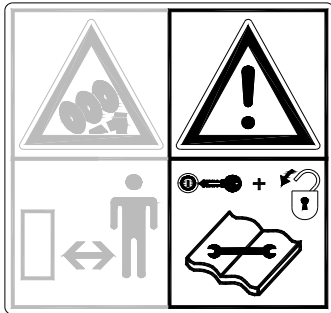

Fig. 2
**Always switch off the tractor engine, remove the tractor ignition key and disconnect PTO** when performing maintenance, adjustment and repair activities (Fig. 2)